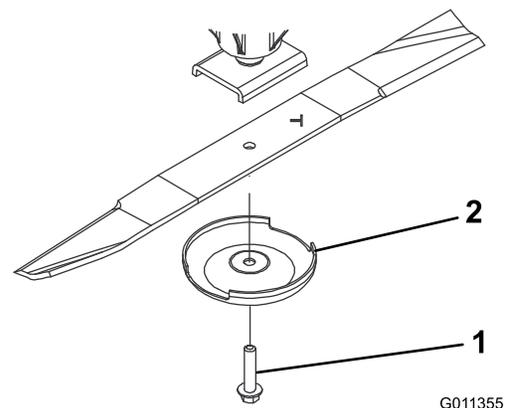

Figure 70
- Grasp the end of the blade using a rag or thickly padded glove and remove the blade bolt, anti-scalp cup, and blade from the spindle shaft (Figure 70).
- Use the anti-scalp cup and blade bolt to install the blade with the sail facing toward the cutting deck (Figure 70).